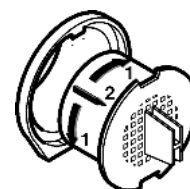

Fig. 24
- Turn the activated charcoal filter through 90° to the right or left *Fig. 24 (1)*.
- Remove *Fig. 24 (2)* the activated charcoal filter.
- Turn the new activated charcoal filter through 90° to the right or left *Fig. 24 (1)* until it snaps into place.